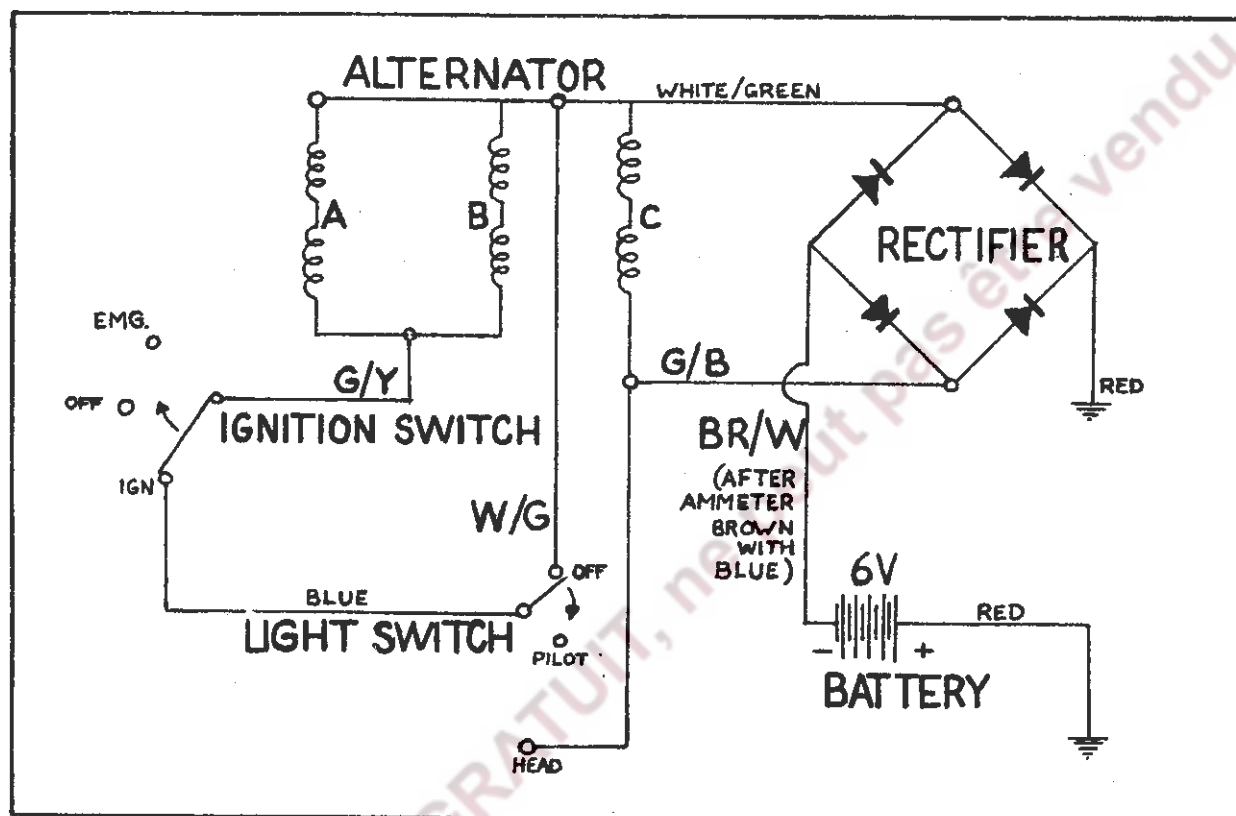

FIG. G.6. Schematic illustration of 6-volt charging circuit.
is achieved by interconnecting the generating coils and switch terminals as shown in the diagram above in Fig. G.6. With the lighting switch in OFF position the coils (A) and (B) are short-circuited and flux induced interacts with the rotor flux maintaining minimum output. With the switch in PILOT position the coils (A) and (B) are open-circuited and the flux interaction is thereby reduced causing coil (C) to give increased "medium" output. With the switch in HEAD position the coils (A), (B) and (C) are connected in parallel, giving maximum output.